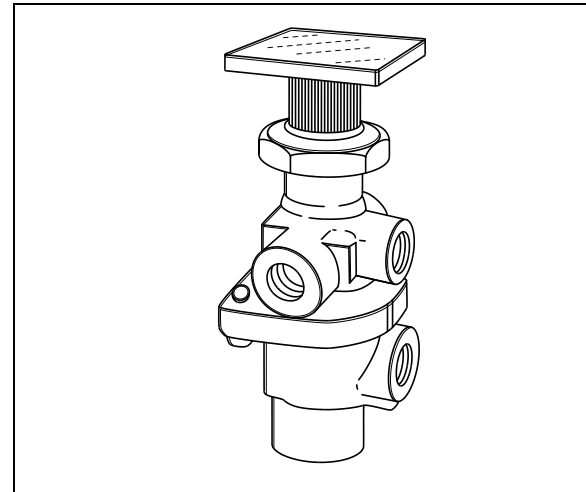

FIGURE 14: PP-1
2. Access this valve by tearing out the finishing panel, which holds the controls in place (Figure 14).